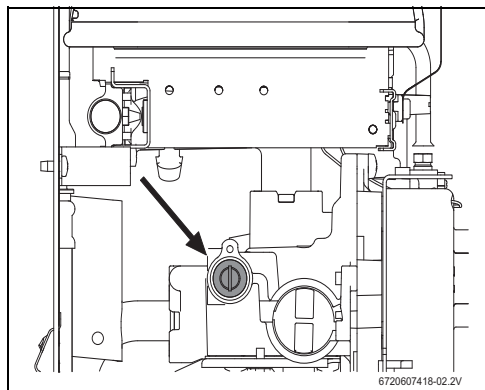

Fig. 19 Maximum gas flow adjusting screw
- ▶ Remove the seal from the adjusting screw (Fig. 19).
- ▶ Using the adjusting screw (Fig. 19), regulate the gas pressure until the values indicated in the table 5 are achieved.